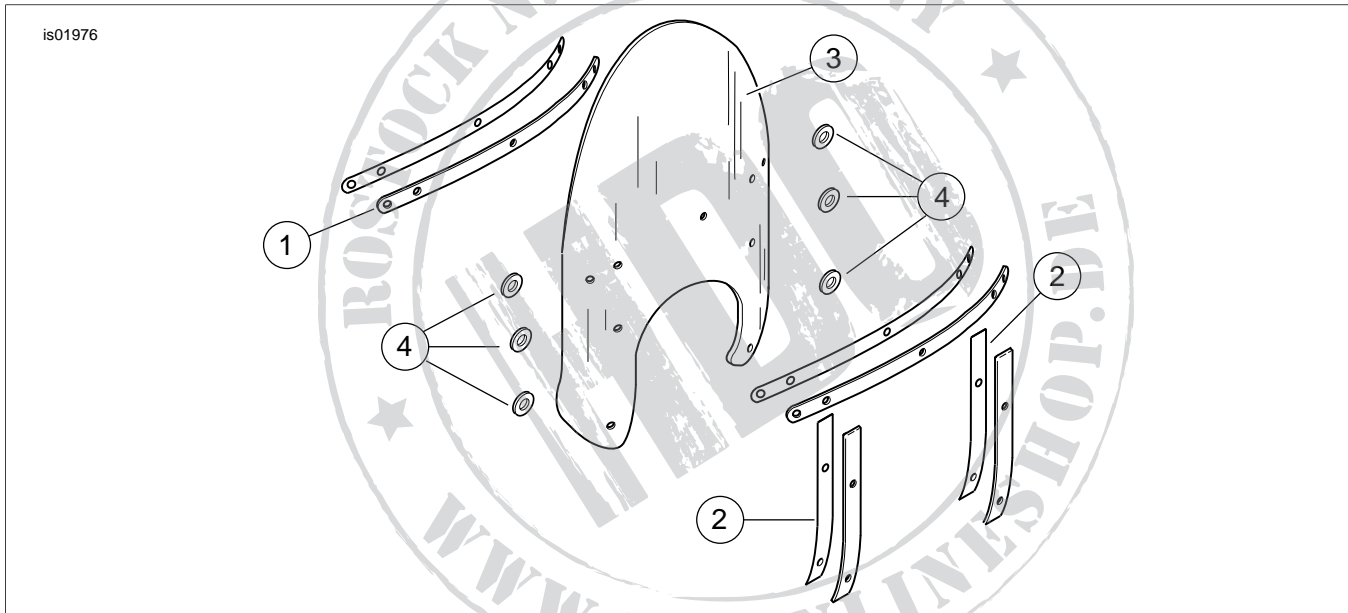

Figure 1. Service Parts: Compact Replacement Windshield Kits
See Figure 1 and Table 2.
1. See Figure 1. Remove windshield.